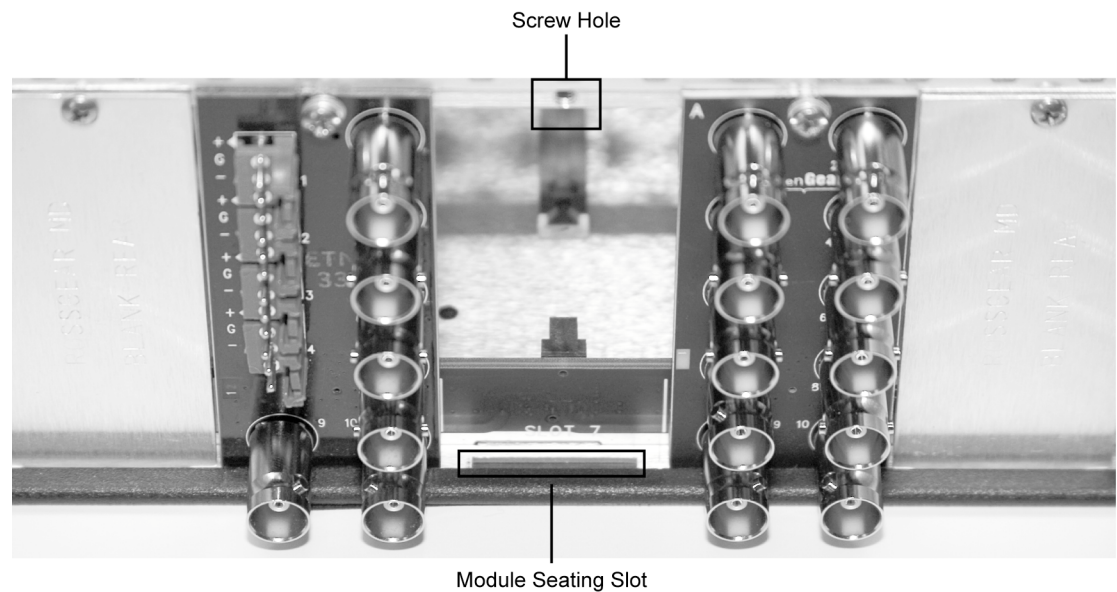

Figure 2. Rear Module Installation
2. As shown in Figure 2, seat the bottom of the rear module in the seating slot at the base of the frame's back plane.